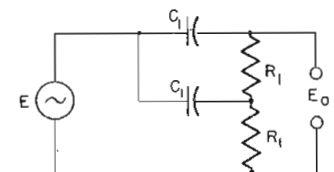

Fig. 3—Circuit used to derive eq. 2
sers are interchanged in the circuit as shown in Fig. 3, the new voltage gain can be found by replacing  $R$  by  $\frac{1}{j\omega C_1}$  and  $j\omega C$  by  $\frac{1}{R_1}$  in Equation (1).